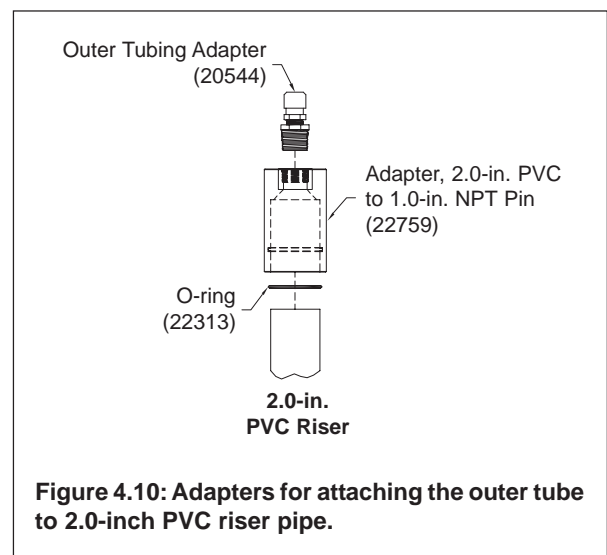

Figure 4.10: Adapters for attaching the outer tube to 2.0-inch PVC riser pipe.
The third actuator option for the MB470 Mechanical Bladder Pump is a Mechanical Actuator Assembly (MB6000, Figure 4.10). Rather than physically raising and lowering the inner tube to cycle the pump, the operator simply rotates the handle on the side of mechanical actuator. The actuator assembly converts this rotational action to vertical movement of the inner tube which cycles the pump. The operator may also choose to manually raise and lower the inner tube by disconnecting the side handle and utilizing the T-handle at the top of the assembly.
The mechanical actuator assembly may be installed directly on a probe rod string (Fig. 4.10) or attached to a flush-mount or aboveground well protector using a Well Mount Kit (MB7200) as shown in Figures 4.11 and 4.12. Installation and operation of the mechanical actuator are described below.
5. **For probe rods only:** Referring to Table 4.2, select the appropriate Probe Rod Pin to 1.0-inch NPT Pin Adapter (20527, 20528, or 20529) to attach the actuator to the top probe rod. Thread this adapter (and a 12-inch extension if additional height is needed) into the actuator as shown on the completed assembly in Figure 4.10.
6. Insert the top end of the concentric tubing set through the lower end of the mechanical actuator assembly. Feed the tubing set through the actuator and out the compression fitting identified in Figure 4.10.
10. Taking care not to kink the inner tube, insert the inner tube up through the compression fitting on the actuator slide block (see Fig. 4.10 for identification of slide block). It may help to raise the slide block during this step.